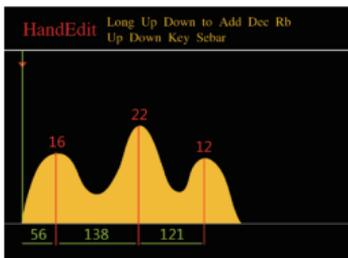

Fig. 2-17
- 2.Press (▼) to enter "manual modification" status as shown in Figure 2-17.